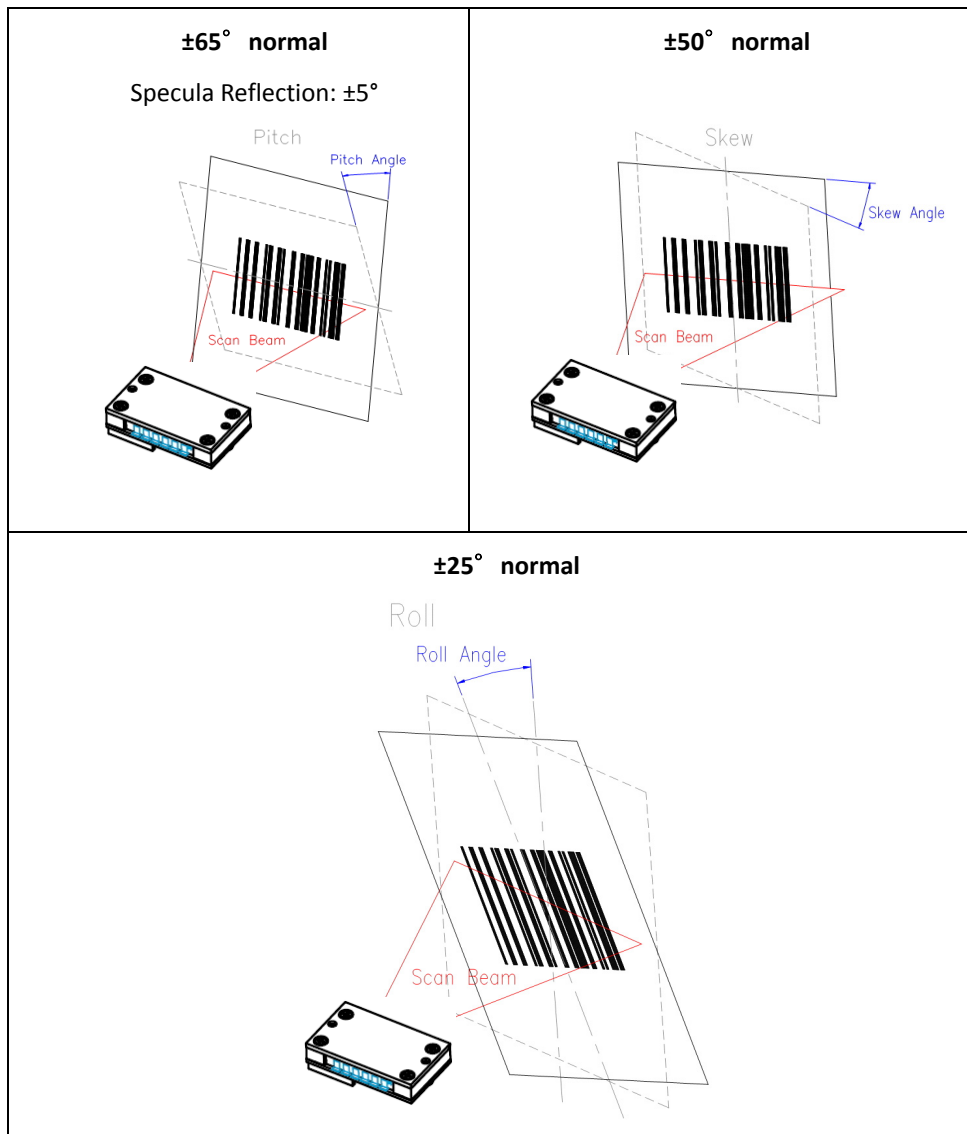

Figure 1: Skew, Pitch and Roll Angle Illustration
- b. When placing the barcode label, one must be careful not to over tilt, skew and/or pitch the barcode (Refer to figure 1)